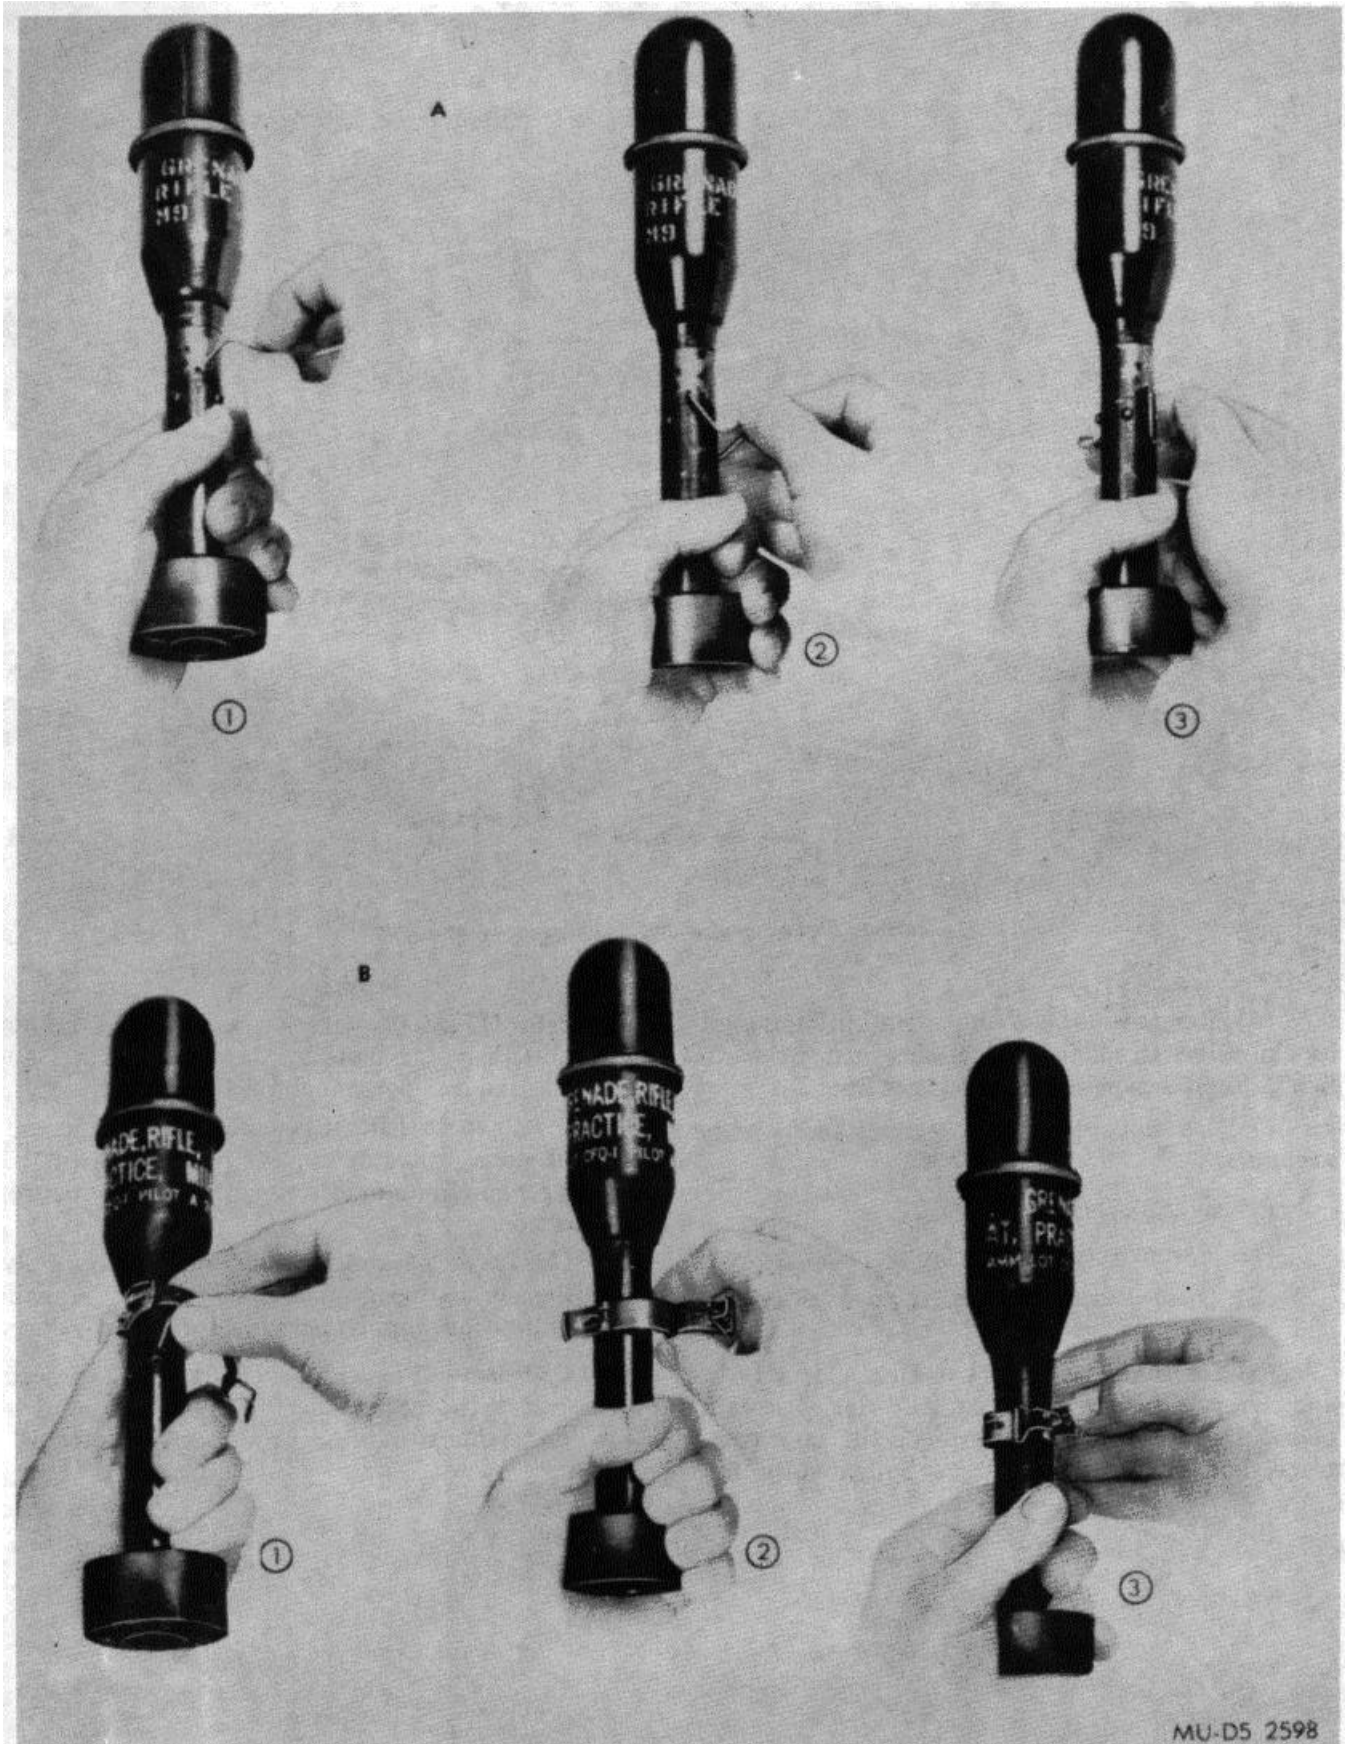

Figure 2-8. Replacement of safety wire and safety clip.
(1) Use only prescribed rifle-launcher-cartridge combination, as shown in applicable rifle operator manuals, to launch rifle grenades.
(2) Always check rifle to assure that it contains no service ammunition.
(3) Do not fire rifle grenade over heads of friendly troops.
(4) Never place rifle grenade on launcher unless grenade is to be fired immediately.
(5) Remove safety wire from Grenade M 19-A I and safety clip from Grenade M22 Series just prior to firing. Retain safety clip or wire. Replace safety wire in M19A1 (A, fig. 2-8) or safety clip in M22 Series (B, fig. 2-8) if grenades are not fired.
(1) Remove container from packing box.
(2) Open container and remove rifle grenade.
(3) See that safety wire in Grenades M19A1 and safety clip on Grenades M22 Series are in place. If safety wire or safety clip is not in place, but available, install as indicated in figure 2-8. If safety wire or safety clip is not available, leave grenade in place and contact authorized disposal personnel for disposition.
(4) Inspect Rifle Grenades M31 for condition of nose protector cap. If cap is dented, return grenade to ammunition supply personnel for disposition.
(5) Inspect stabilizer tube and fin assembly. If either is dented or deformed, return grenade to ammunition supply personnel for disposition.